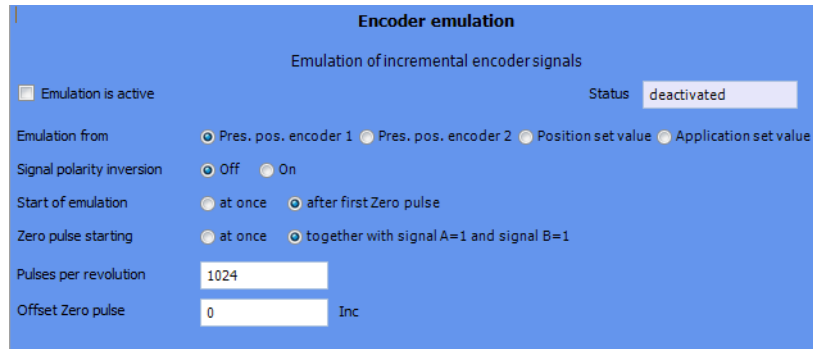

Figure 12: Incremental encoder emulation - window
- 7 All the values and the selection points must be set in this window as in ▶Figure 12◀ on page 48.